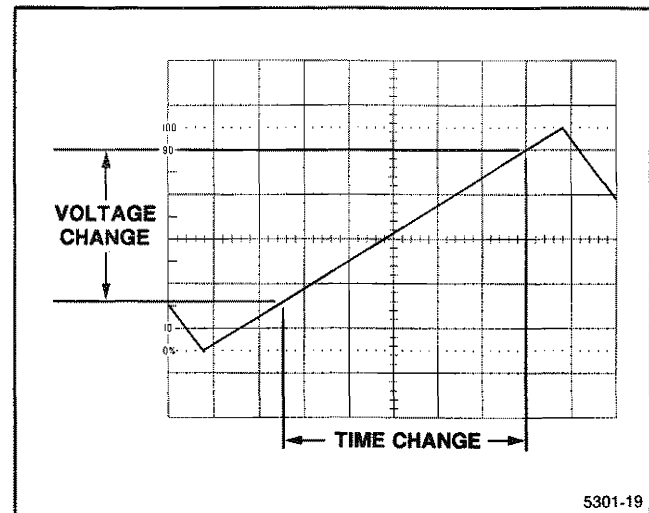

Figure 6-11. Slope.
3. Set the SEC/DIV switch to horizontally spread the portion of the waveform to be measured across the width of the graticule area (see Figure 6-11).
As an example, in Figure 6-11, the voltage difference between the measurement points is 1.74 V, and the time difference is 5.42 s.